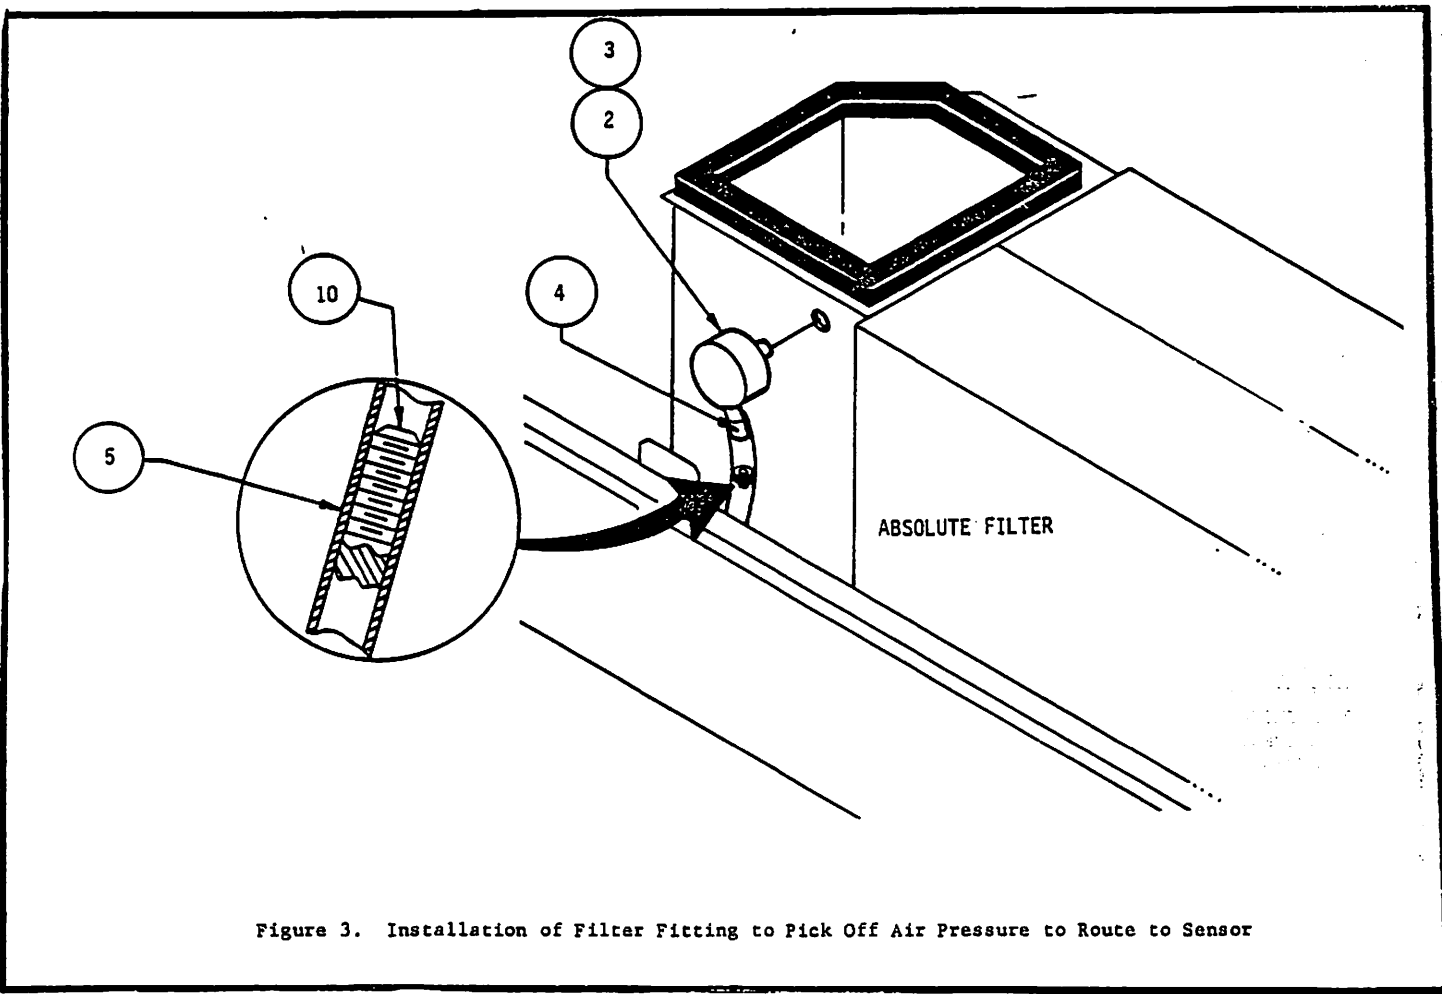

Figure 3. Installation of Filter Fitting to Pick Off Air Pressure to Route to Sensor
I. Refer to Figure 3 for steps involving items 2, 3, and 4. Insert O-ring (Item 3) into groove of filter fitting (Item 2). Press the O-ring to the bottom of the groove.
N. Refer to Figure 3. Insert set screw (Item 10) 1.00 + or - .12 inches (25.4 + or -3 mm) from one end of air tubing (Item 5).